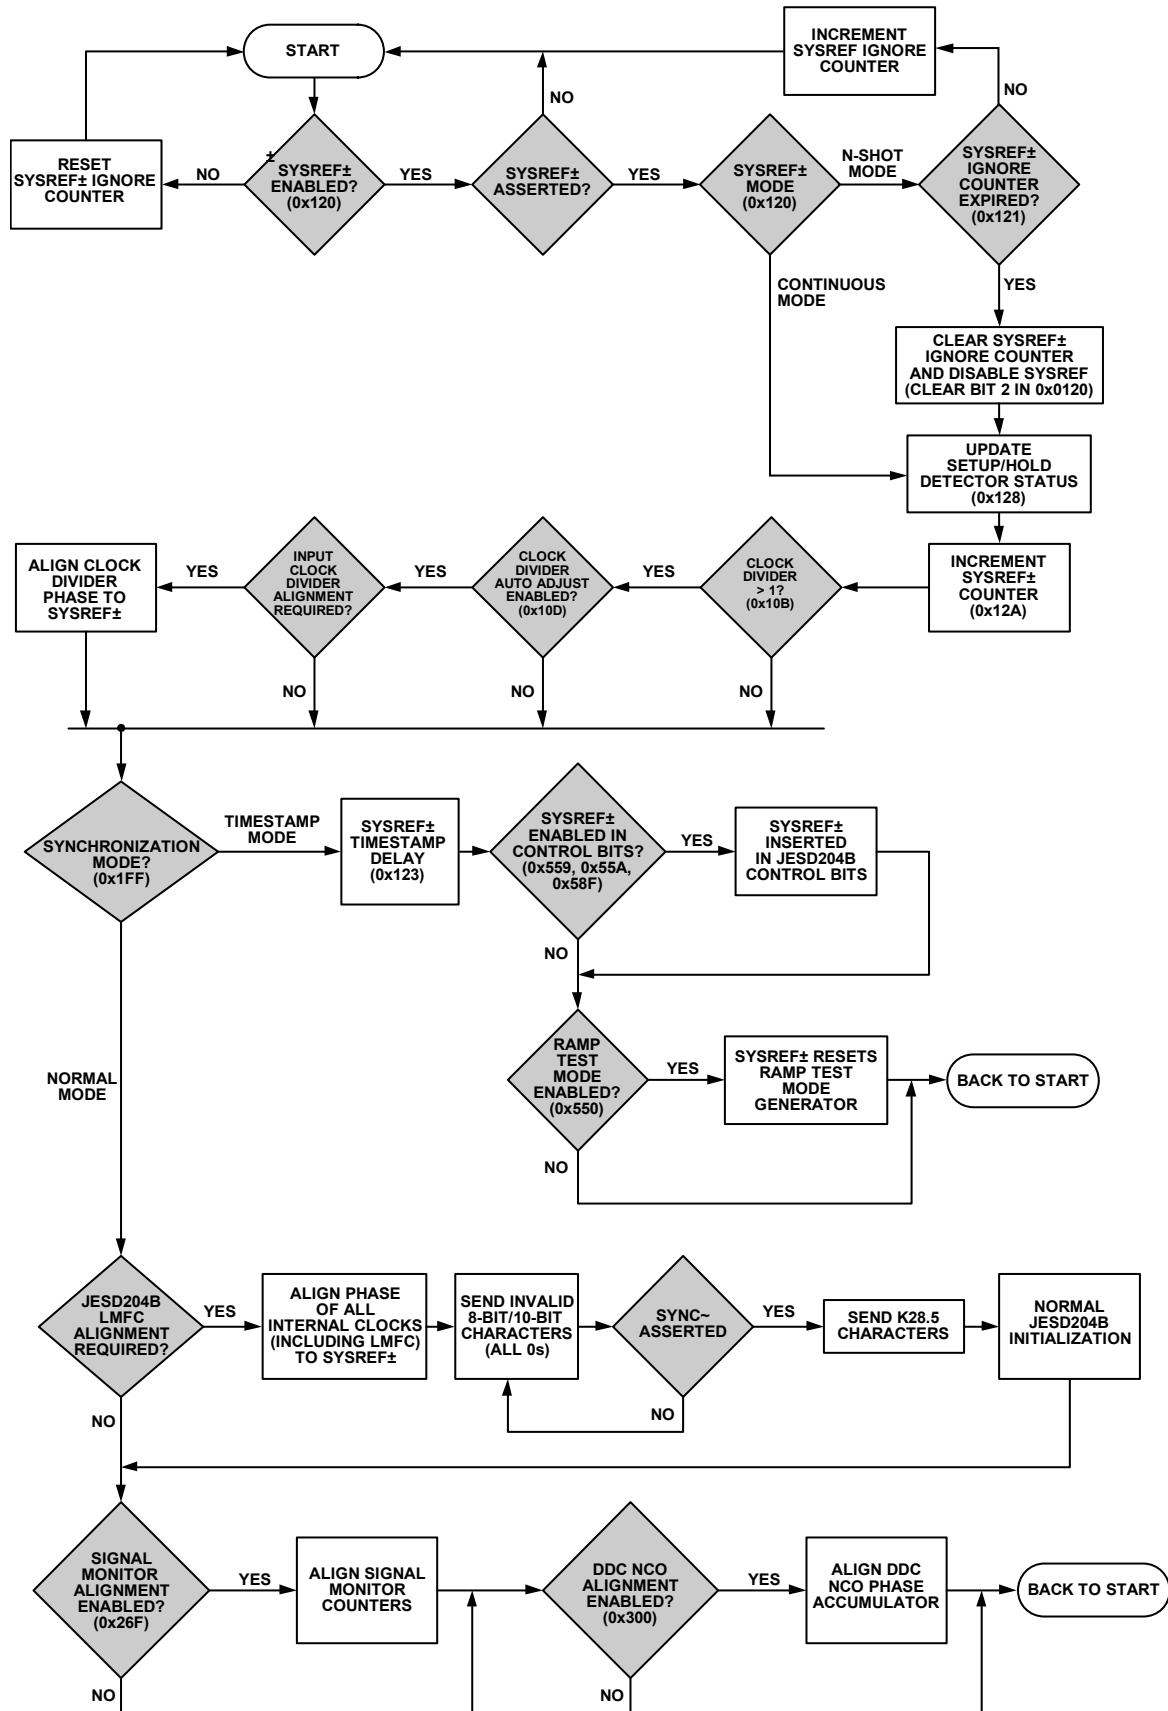

Figure 107. SYSREF± Capture Scenarios and Multichip Synchronization
The flowchart shown in Figure 107 describes the internal mechanism for multichip synchronization in the AD9234. There are two methods by which multichip synchronization can take place, as determined by the chip synchronization mode bit (Register 0x1FF, Bit 0). Both methods involve different  $\text{SYSREF}_{\pm}$  signal applications.
The default state of the chip synchronization mode bit is 0, which configures the AD9234 for normal chip synchronization. The JESD204B standard specifies the use of  $\text{SYSREF}_{\pm}$  to provide deterministic latency within a single link. This same concept, when applied to a system with multiple converters and logic devices, can also provide multichip synchronization. In Figure 107, this is referred to as normal mode. Following the process outlined in Figure 107 ensures the AD9234 is configured appropriately. Consult the respective ASIC or FPGA user intellectual property (IP) guide to ensure the JESD204B receivers are configured appropriately.